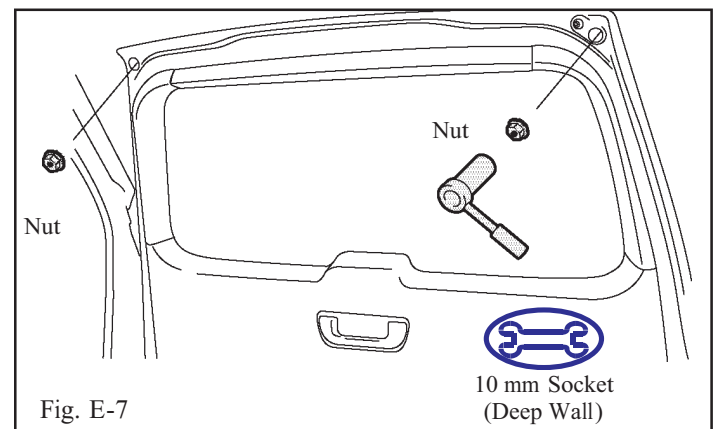

Fig. E-7
- ➔ 9. Open the door and install nuts (2 locations). (Fig. E-7).